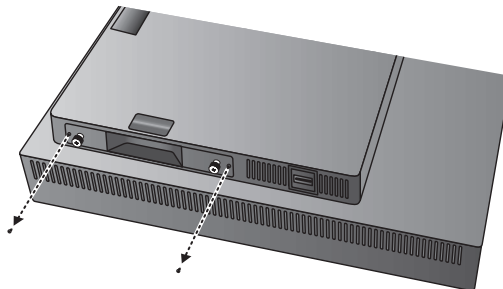

Figure G.2
3. Disconnect the outside mounting screws (**Figure G.2**).